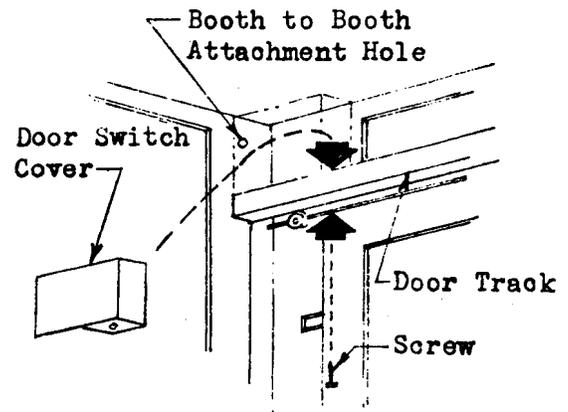

Fig. 4
3.07 Multiple installation sites must be relatively level to properly bolt booths together. A set of bolts is furnished with each booth for bolting to the next booth. The holes are in the side sections near the upper and lower corners. For access to upper, right-hand attachment hole, remove door switch as shown in Fig. 4.